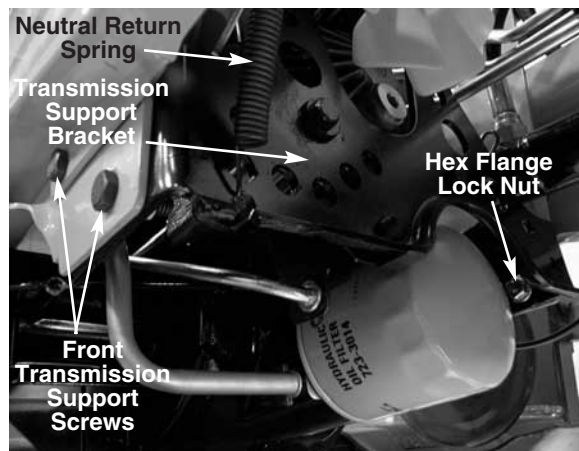

FIGURE 5.
18. Remove all four of the front transmission support bracket to frame hex cap screws and hex flange lock nuts using a 9/16 wrench and a 9/16 socket. See figure 5.